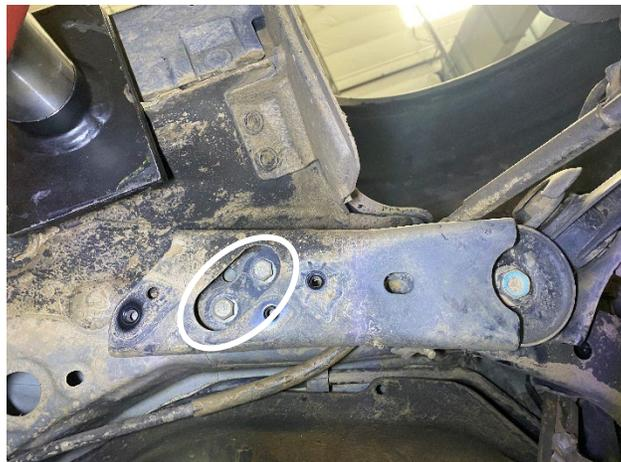

Figure 4.
- Q. Remove the 2 OE cradle bracket bolts as shown below in Figure 4.